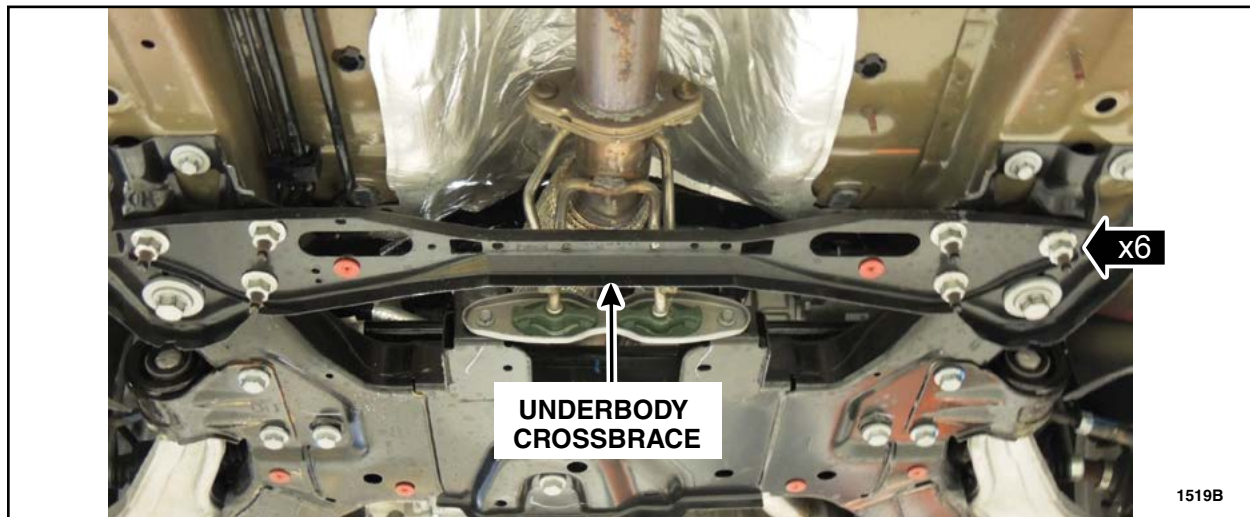

FIGURE 1
2. Remove the six nuts and the underbody crossbrace. See Figure 1.
1. Install the underbody crossbrace and the six nuts. See Figure 1.